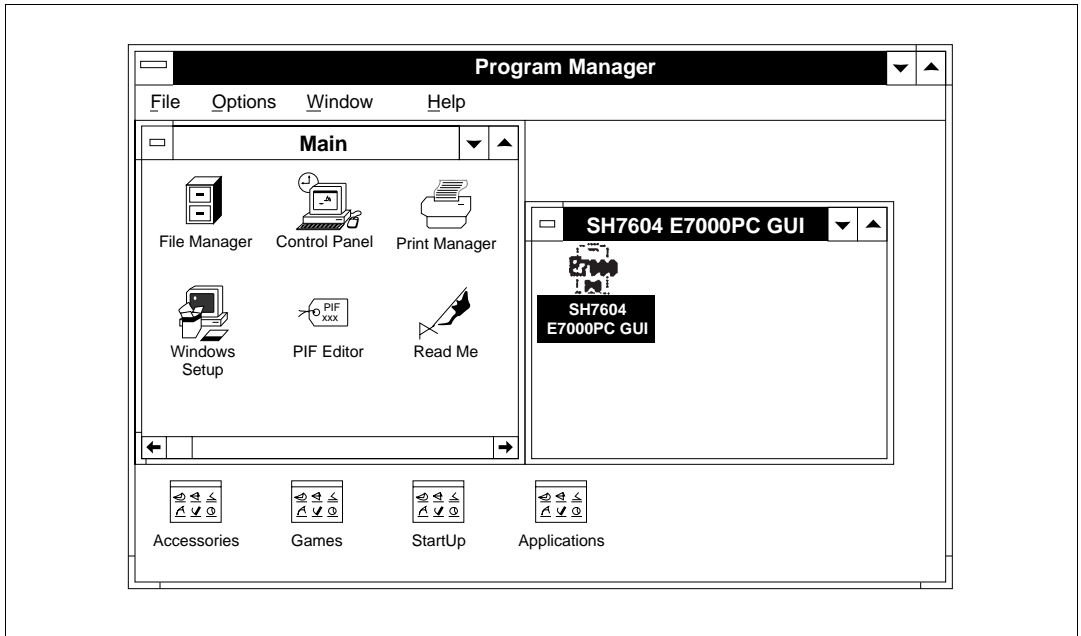

Figure 2-11 Program Manager Window and GUI-SH Initiation
- (1) Initiate Windows. Immediately after GUI-SH installation, temporarily terminate Windows and DOS, and then re-initiate them.
- (2) Power on the emulator.
- (3) Using the left button on the mouse, double-click the GUI-SH icon in the GUI-SH group window within the Program Manager window, as shown in figure 2-11.